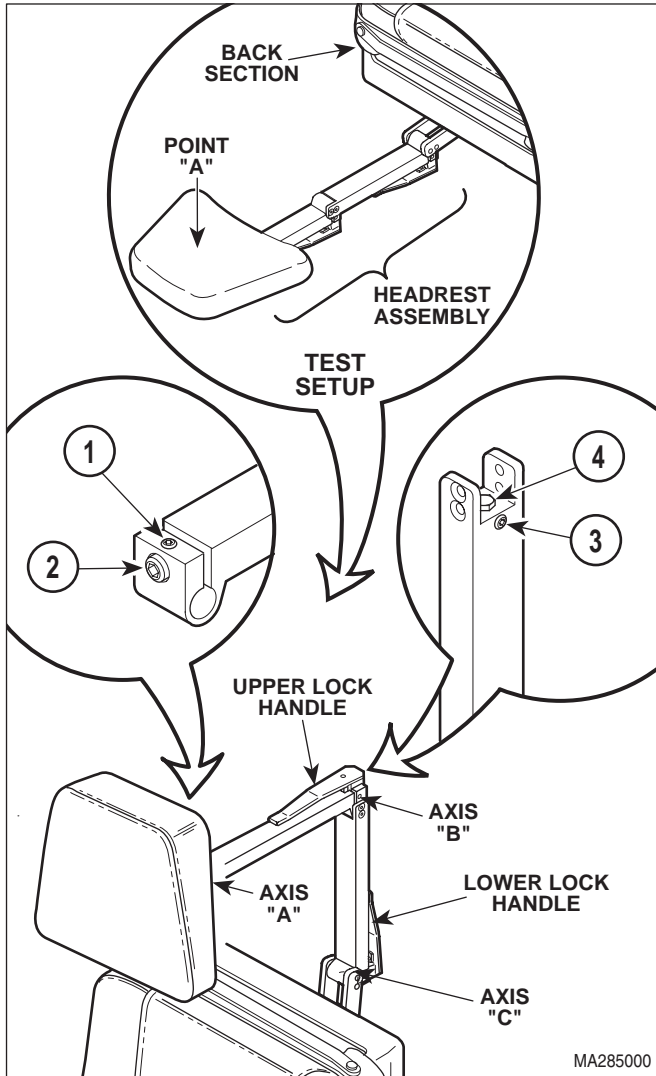

Figure 4-31. Headrest Adjustment
- (1) Unlock upper lock handle (See Figure 4-31).
- (2) Loosen setscrew (1, Figure 4-31).
- (3) Tighten adjusting screw (2) slightly; then lock upper lock handle. Repeat this step until Axis A and B have the strongest possible holding power, but operation of upper lock handle is not too difficult.
- (4) Tighten setscrew (1).
- (5) Unlock lower lock handle.